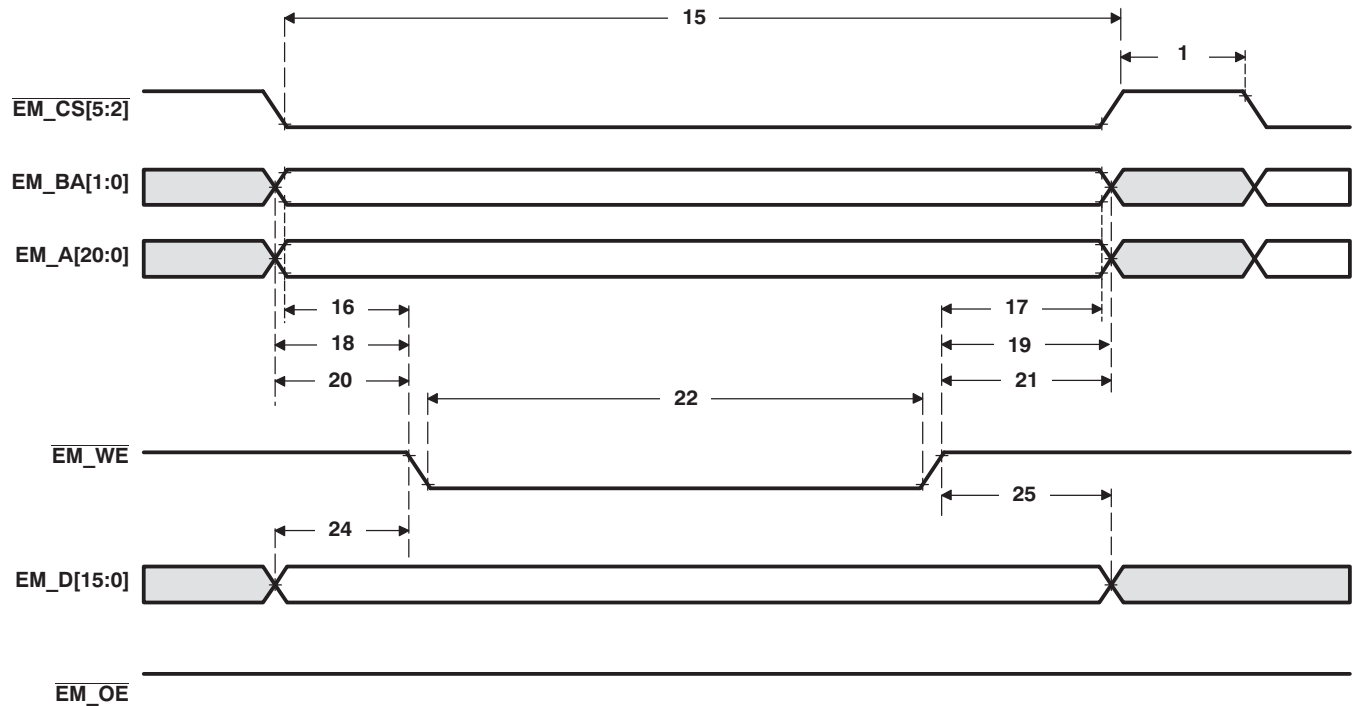
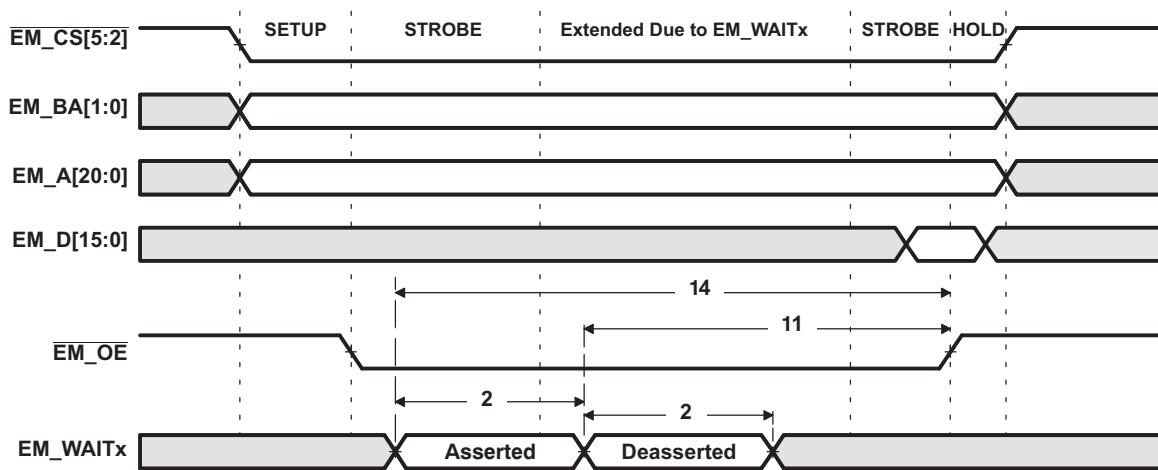
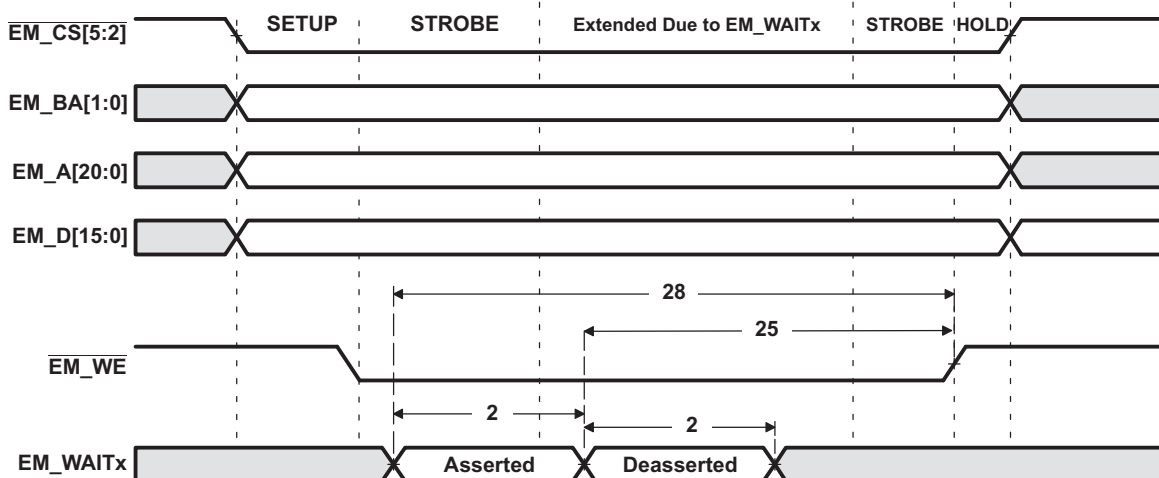

Figure 6-19. Asynchronous Memory Write Timing for EMIF
Figure 6-20. EM_WAITx Read Timing Requirements
Figure 6-21. EM_WAITx Write Timing Requirements
(1) TA = Turn around, RS = Read setup, RST = Read strobe, RH = Read hold, WS = Write setup, WST = Write strobe, WH = Write hold, MEWC = Maximum external wait cycles. These parameters are programmed via the Asynchronous Configuration and Asynchronous Wait Cycle Configuration Registers.
(2) E = SYSCLK period in ns. For example, when SYSCLK is set to 100/120 MHz, E = 10/8.33 ns, respectively.
(3) EWC = external wait cycles determined by EM_WAITx input signal. EWC supports the following range of values EWC[256-1]. Note that the maximum wait time before timeout is specified by bit field MEWC in the Asynchronous Wait Cycle Configuration Register.
Table 6-15. Switching Characteristics Over Recommended Operating Conditions for EMIF Asynchronous Memory^{(1) (2)} (see Figure 6-19 and Figure 6-21)⁽³⁾ (continued)
Table 6-18. Timing Requirements for EMIF Asynchronous Memory⁽¹⁾ (see Figure 6-18, Figure 6-20, and Figure 6-21)
(1) E = SYSCLK period in ns. For example, when SYSCLK is set to 100/120 MHz, E = 10/8.33 ns, respectively.
(2) Setup before end of STROBE phase (if no extended wait states are inserted) by which EM_WAITx must be asserted to add extended wait states. Figure 6-20 and Figure 6-21 describe EMIF transactions that include extended wait states inserted during the STROBE phase. However, cycles inserted as part of this extended wait period should not be counted; the 4E requirement is to the start of where the HOLD phase would begin if there were no extended wait cycles.
Table 6-19. Switching Characteristics Over Recommended Operating Conditions for EMIF Asynchronous Memory^{(1) (2) (3)} (see Figure 6-18, Figure 6-20, and Figure 6-21)
Table 6-19. Switching Characteristics Over Recommended Operating Conditions for EMIF Asynchronous Memory^{(1) (2) (3)} (see Figure 6-18, Figure 6-20, and Figure 6-21) (continued)